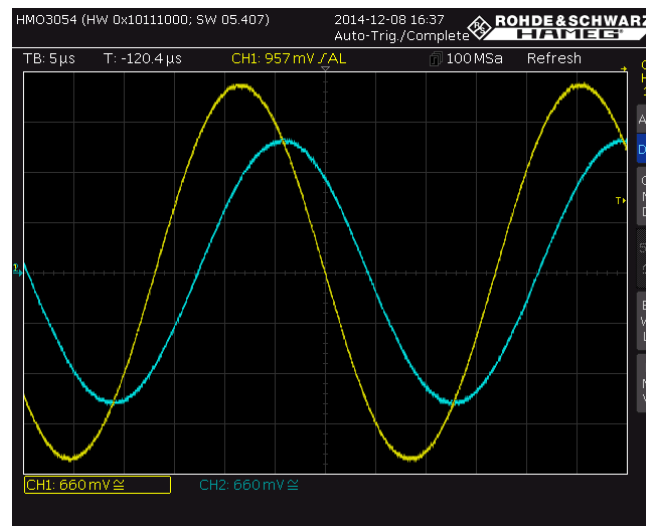

Fig. 2-41: Display of  $u_{in}$  (CH1, yellow) and  $u_{out}$  (CH2, blue) at the lowpass cutoff frequency.
- Press the *Quick View* key to switch off the Quick View function. Fig. 2-41 shows the attenuation and the phase response of the output voltage at the cutoff frequency.